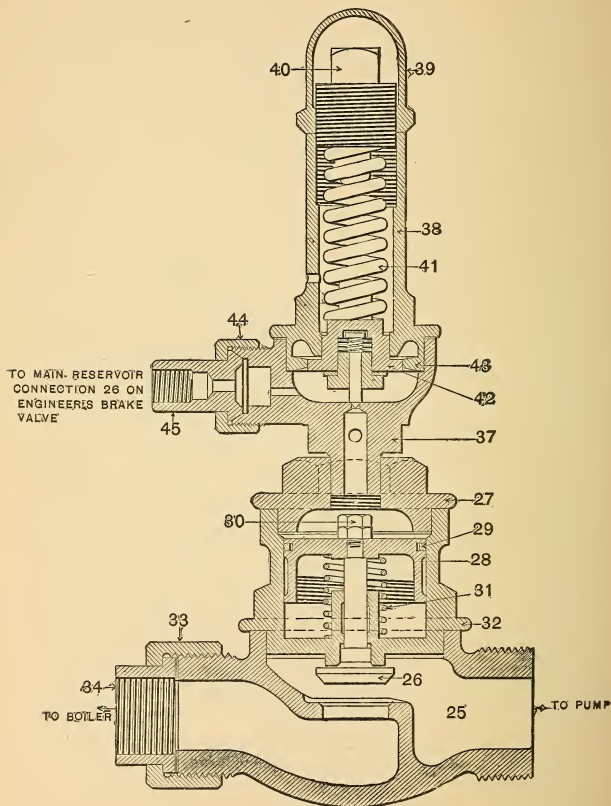

FIG. 22.—IMPROVED PUMP GOVERNOR.
*Q. Explain the duty of spring 41 (Fig. 22).*
A. It allows air pressure to reach the top of piston 28 (Fig. 22), forcing it down and closing valve 26.
*Q. What would be the effect if the release port 37 (Fig. 22) were closed by dirt?*